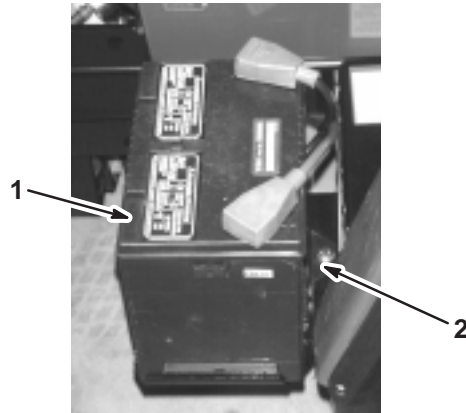

Figure 53
2. Remove the battery retainer and fasteners (Fig. 53).
3. Install the battery retainer and secure it with the fasteners you removed previously (Fig. 53).